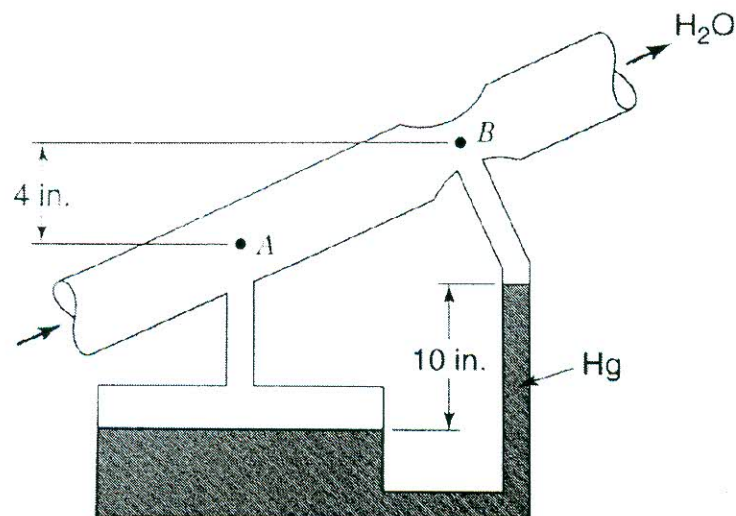

Figure 2 – A differential manometer
- [b] A differential manometer is used to measure the pressure change caused by a flow constriction in a piping system as shown in Figure 2. Determine the pressure difference between points A and B in Pascal. Which section has higher pressure?